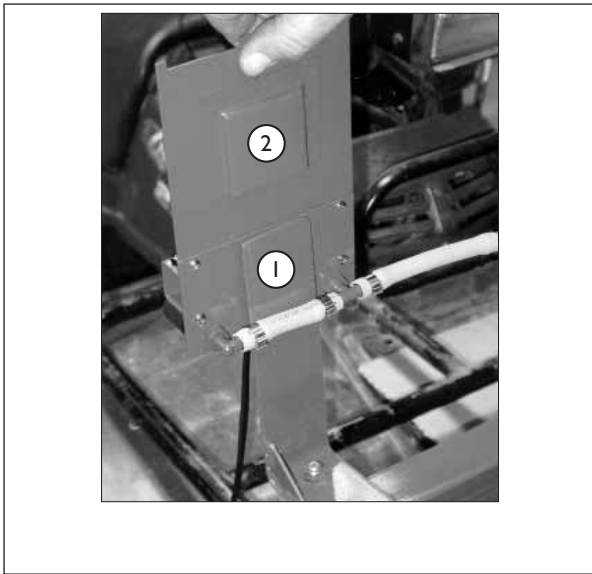

Figure 1.
2. Locate the backplate in the most appropriate operating position on the vehicle. This is usually in front of the operator for ease of operation and control. To ensure the correct operation of system flowmeters, the backplate (Fig.1, No. 2) must be mounted vertically, preferably on the mounting bracket provided (Fig.1, No. 1). This mounting bracket is often assembled with the mounting tube of the Undavina® of Spraydome® utilising one of the clamp assemblies supplied.